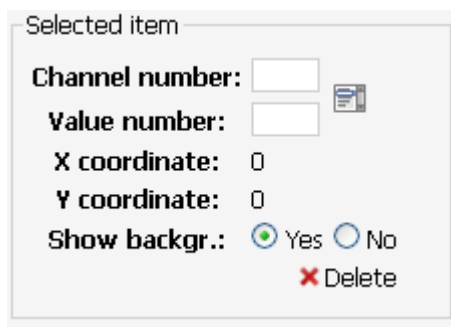

Fig. 52. The left menu of synoptic map- selected item
- c) Selected item- the part of the left menu presented on the fig. 52 contains the information on an active (selected) item: